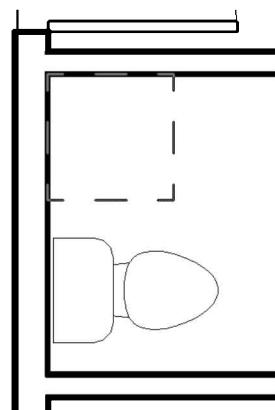

FIGURE 12-1.3 Vanity base cabinet added
5. Place a Vanity Cabinet-Double Door Sink Unit: 24" using the *Component* tool (Figure 12-1.3).